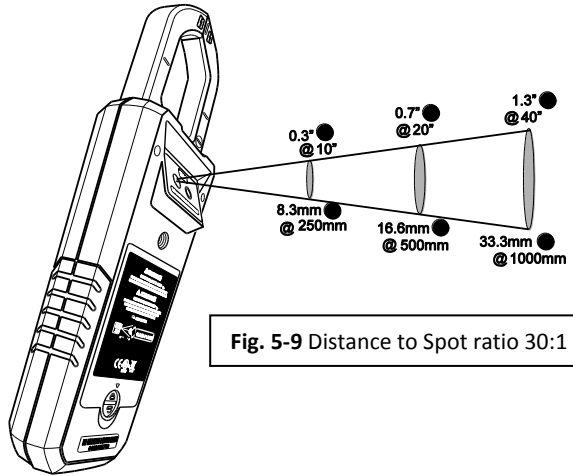

Fig. 5-9 Distance to Spot ratio 30:1
- **The Temperature measurement** (1) shown on the upper left corner of the display represents the temperature of the spot sensed. Note that while the temperature reading is stabilizing dashes will be displayed for approximately 30 seconds. The Laser and the Cross hairs (8) can be used for precise targeting (set them ON or OFF individually in the Programming Menu).
- The currently selected **Emissivity** value (10) is shown on the upper right corner. Use the programming Menu to change the emissivity setting. See the Emissivity table later in this guide for a list of settings for various surface textures.
- The **Thermal scale** (9) shows the range of colors for thermal images. The lighter the color, the warmer the temperature; the darker the color, the cooler the temperature.
- The **Distance to Spot ratio** for the imager is 30:1 meaning that the measurement spot is 30 times smaller than the distance the meter is from spot (at a distance of 30", the meter 'sees' a target spot of 1"). See Fig 5-8 for examples. The thermal imager's FOV (Field Of View) is 50 degrees (top view) and 38.6 degrees (side view), see Fig. 5-9 (a) and (b).